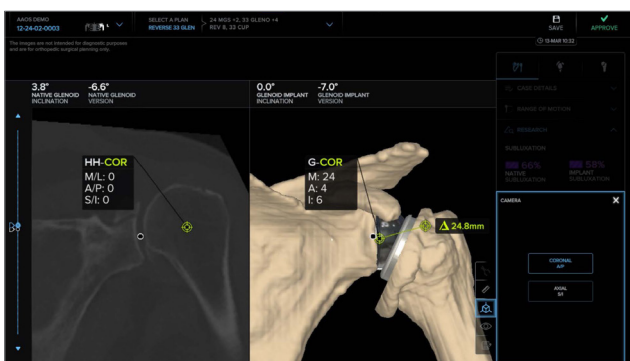

Figure 73. Research Viewer page camera toggle
- The viewer defaults to the axial view. To access the coronal view, select the  as shown in Figure 73.